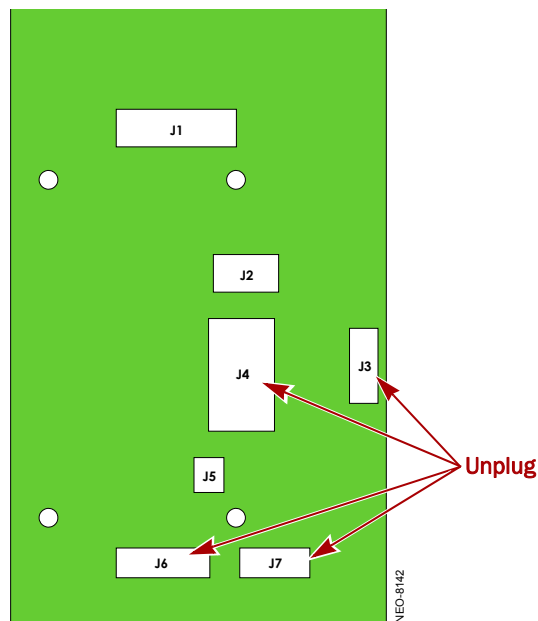

Figure 3-3: Location of the Rotary SPI PWA Connectors
- At the rear of the BDA base, unplug the **J3, J4, J6, and J7** connectors from the Rotary SPI PWA (Figure 3-3).